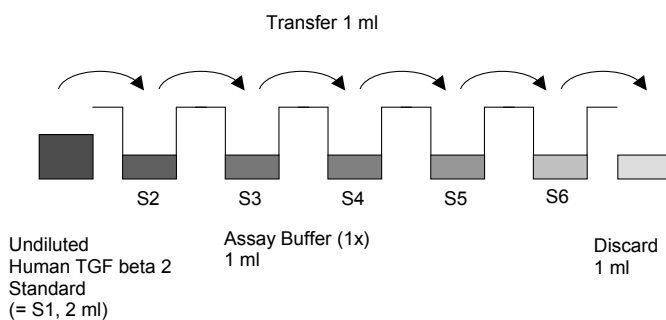

Fig. 7 Human TGF B 2 standard
- Repeat serial dilutions 3 more times thus creating the points of the standard curve ranging from 1000.0 to 31.3 pg/mL (see Figure 7).